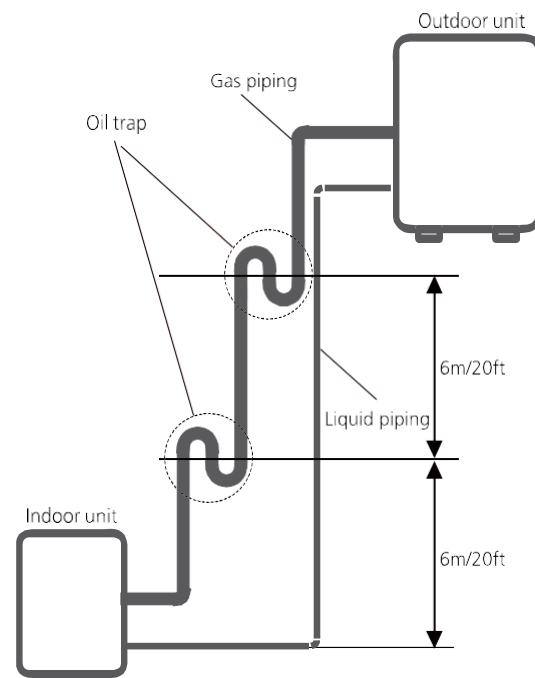

Fig. 7.4
- It is recommended that vertical suction risers not be upsized. Proper oil return to the compressor should be maintained with suction gas velocity. If velocities drop below 7.62 m/s (1500 fpm (feet per minute)), oil return will be decreased. An oil trap should be installed every 6 m (20 ft) of vertical suction line riser (see Fig. 7.4).